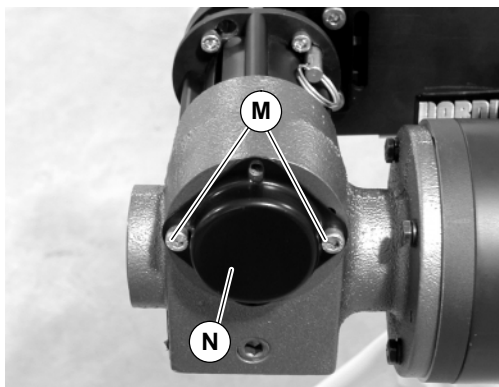

Figure 8
1. Remove two (2) screws (M of Figure 8) and remove drive shaft cover (N).
8. Install cover (N of Figure 8) and tighten two (2) screws (M) to 50 in-lbs (5.6 N-m).